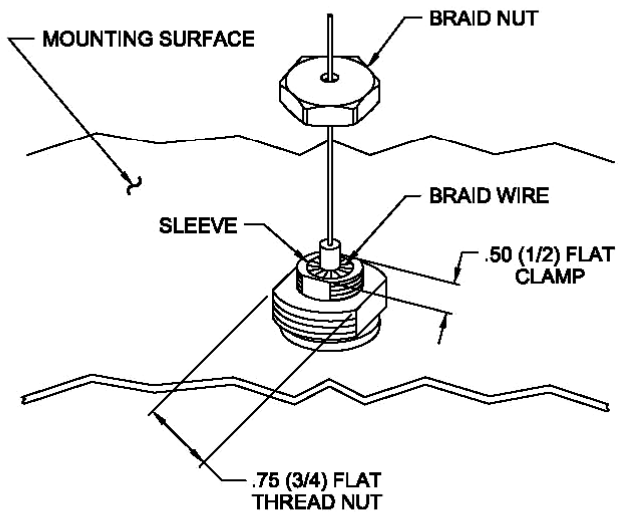

FIG. 4
- 12.) Place the gasket over the clamp assembly and lay flat on the mounting surface. See figure 4.
- 13.) Thread the insulator onto the clamp assembly feeding the conductor through the center hole. See figure 4.
- 14.) Wrap the center conductor, clockwise, around the top shoulder of the threaded portion of the insulator. Trim center conductor if necessary. See figure 4.